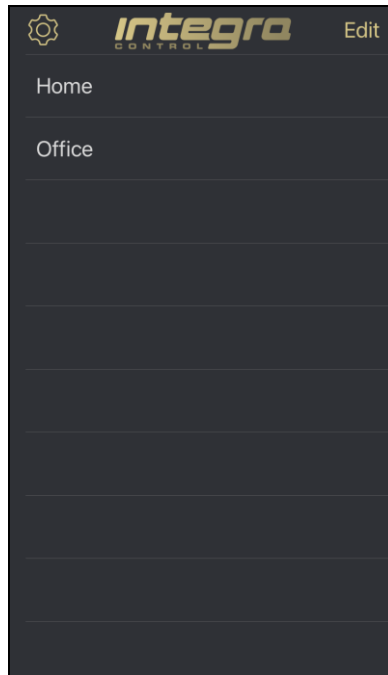

Fig. 6. INTEGRA CONTROL application. List of added control panels.
7. A newly added control panel will appear on the list on the “Objects” screen (Fig. 6).